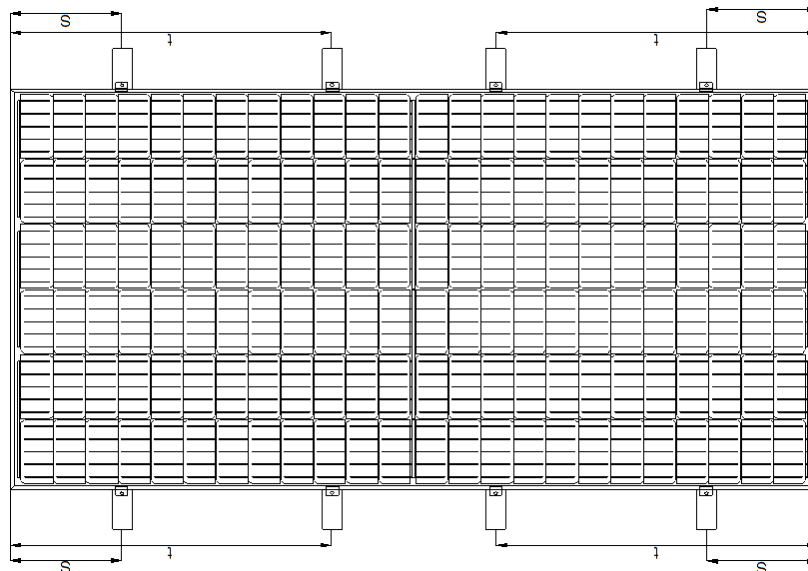

Figure 6: $394\text{mm} < s < 444\text{mm}$ 、 $914\text{mm} < t < 964\text{mm}$
2) Long Edge Perpendicular to Array Rails (Figure 6)